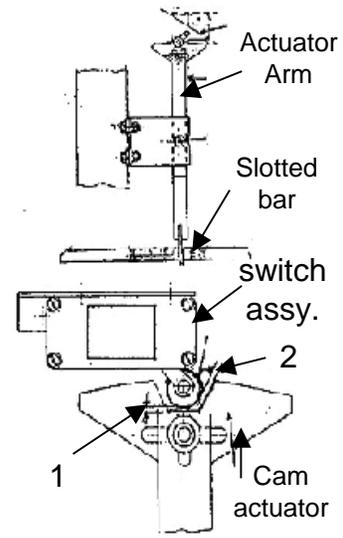

Figure 8-9a Westinghouse Escalator Broken Step Chain Safety
24. What should be the gap between the switch roller and inside of the cam in figure 8-9a arrow #1?
25. What should be the gap between the cam and the switch roller on the uphill in figure 8-9a arrow #2?